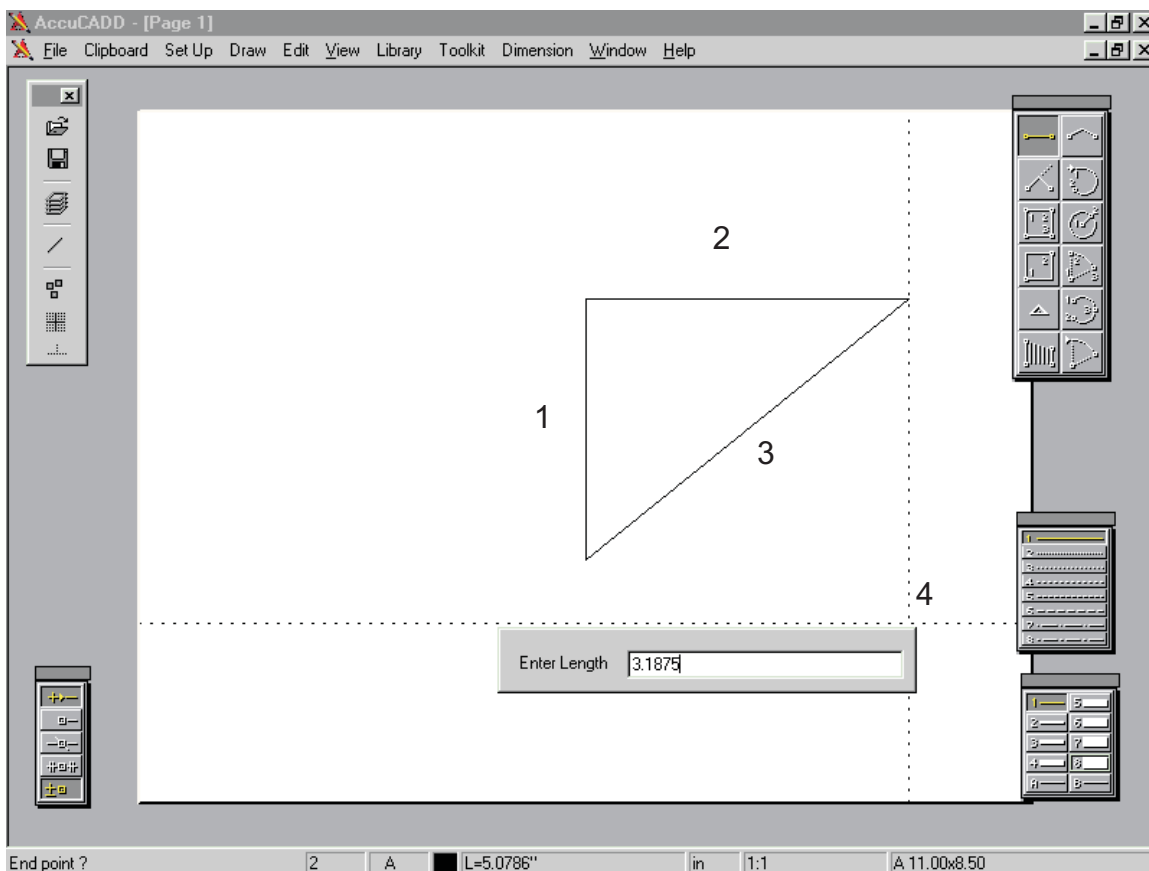

Figure 5: Drawing precisely to length
□ Turn on the Orth trap, by touching the word Orth again. Touch any point (4) on the work area, as Figure 5, to set the start (datum) of a new line there.